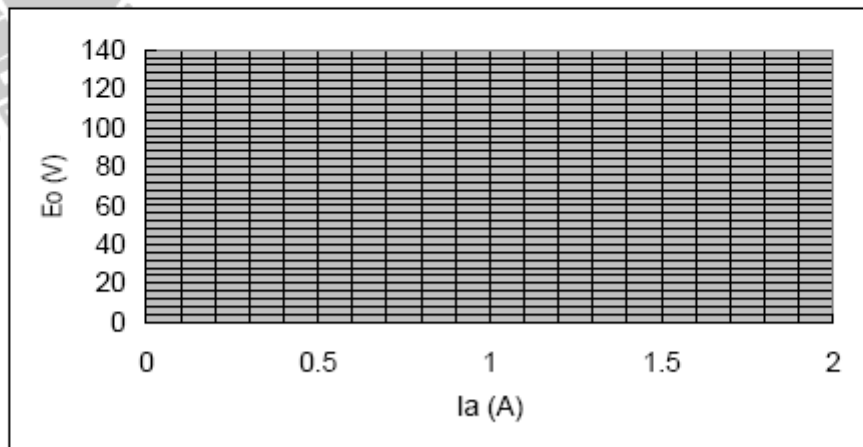

Fig. 9-2-3 The E_o vs I_a curve
10. Using the results of Table 9-2-1, plot the E_o vs I_a curve on the graph of Fig. 9-2-3.